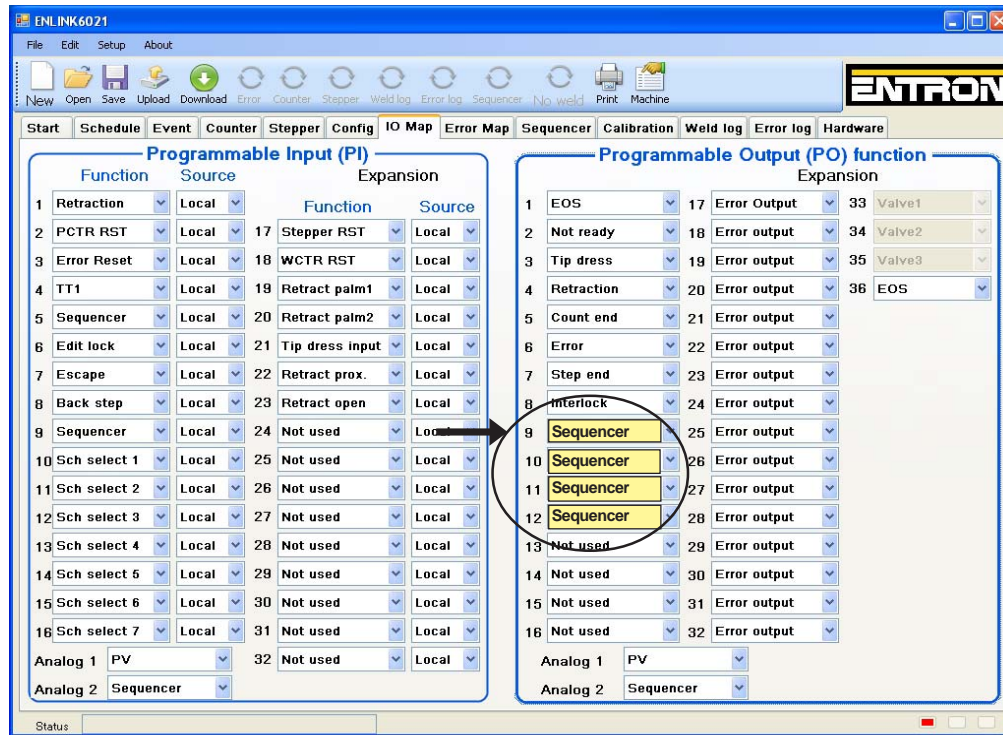

Figure 9-48. Input/Output Map page
C. Map OUTPUTS PO9 through PO12 to Sequencer on Input/Output Map page (Figure 9-48).